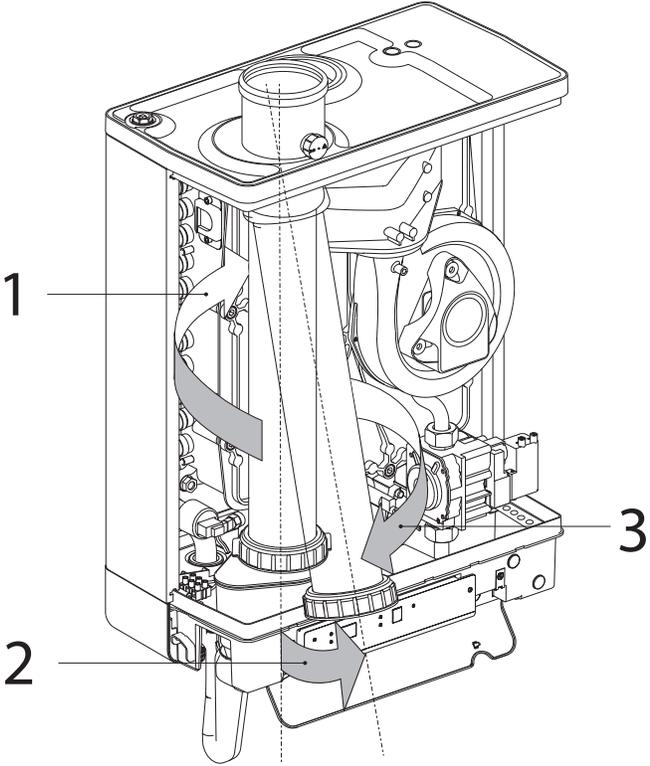

Fig. 24: Removal of Flue Pipe
2. Pull up on the flue pipe to disengage from the condensate pan as show in Fig. 24.
3. Pull the flue pipe down and out to disengage from the vent adapter as shown in Fig. 24, page 63.